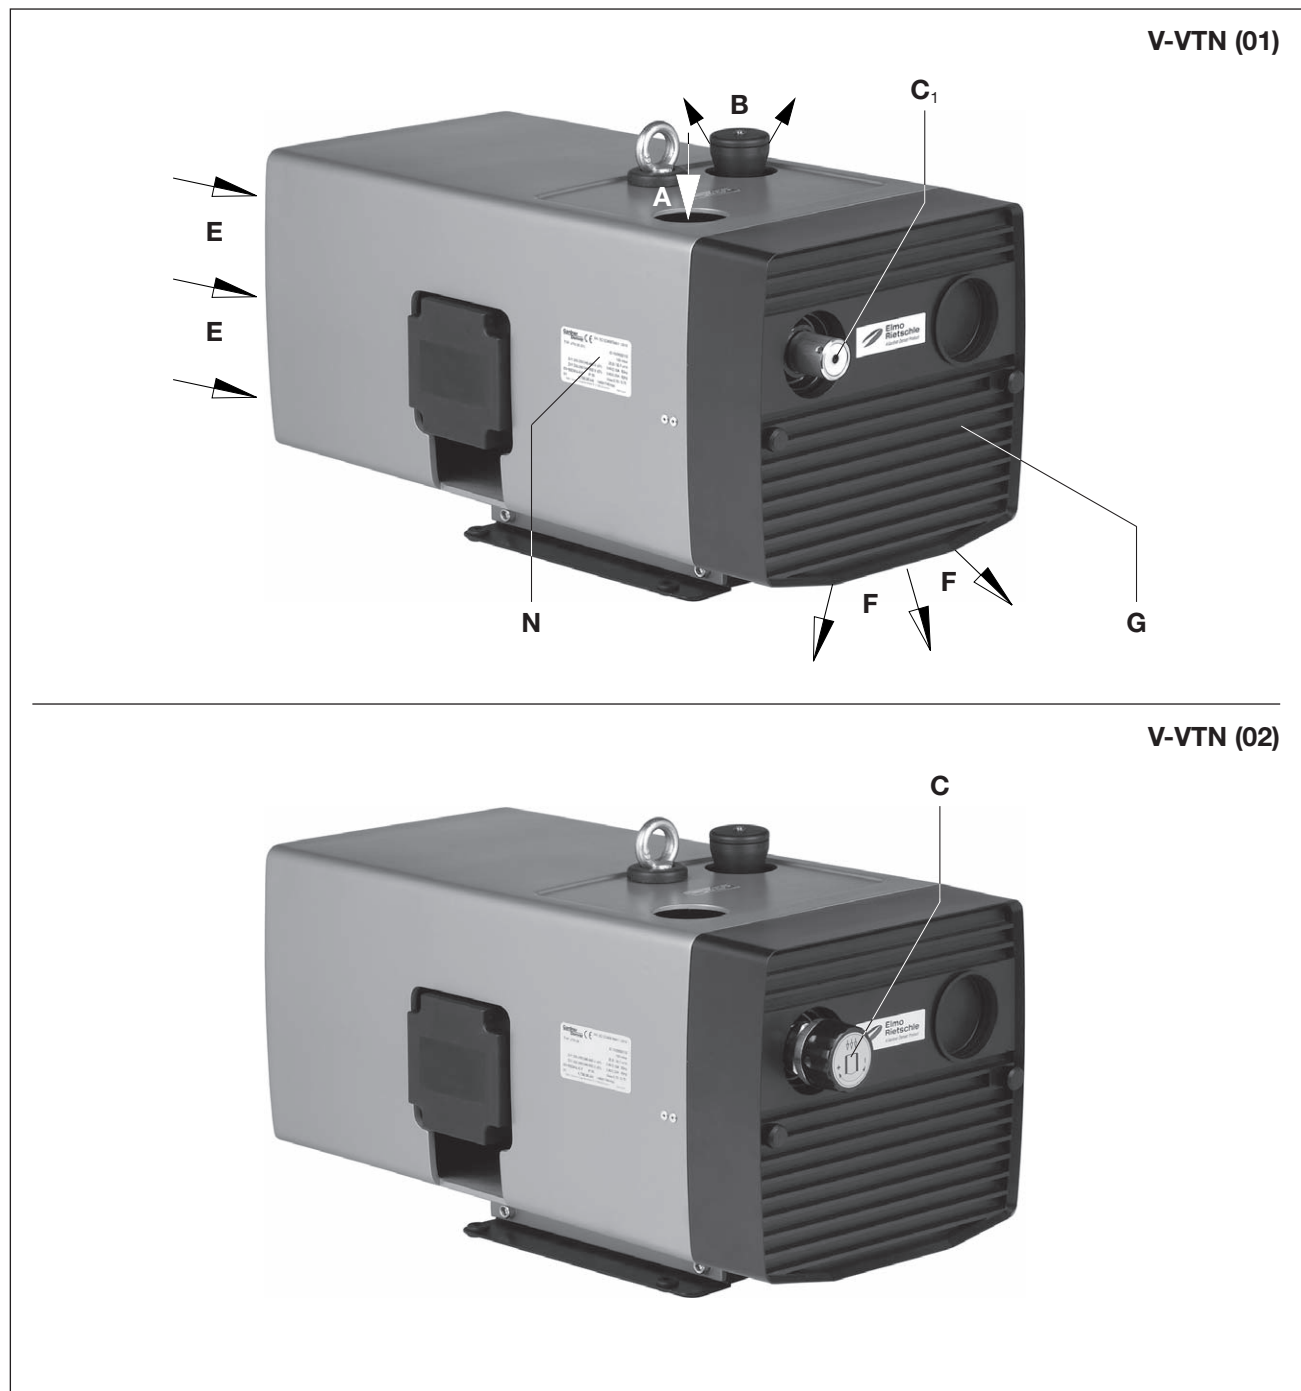
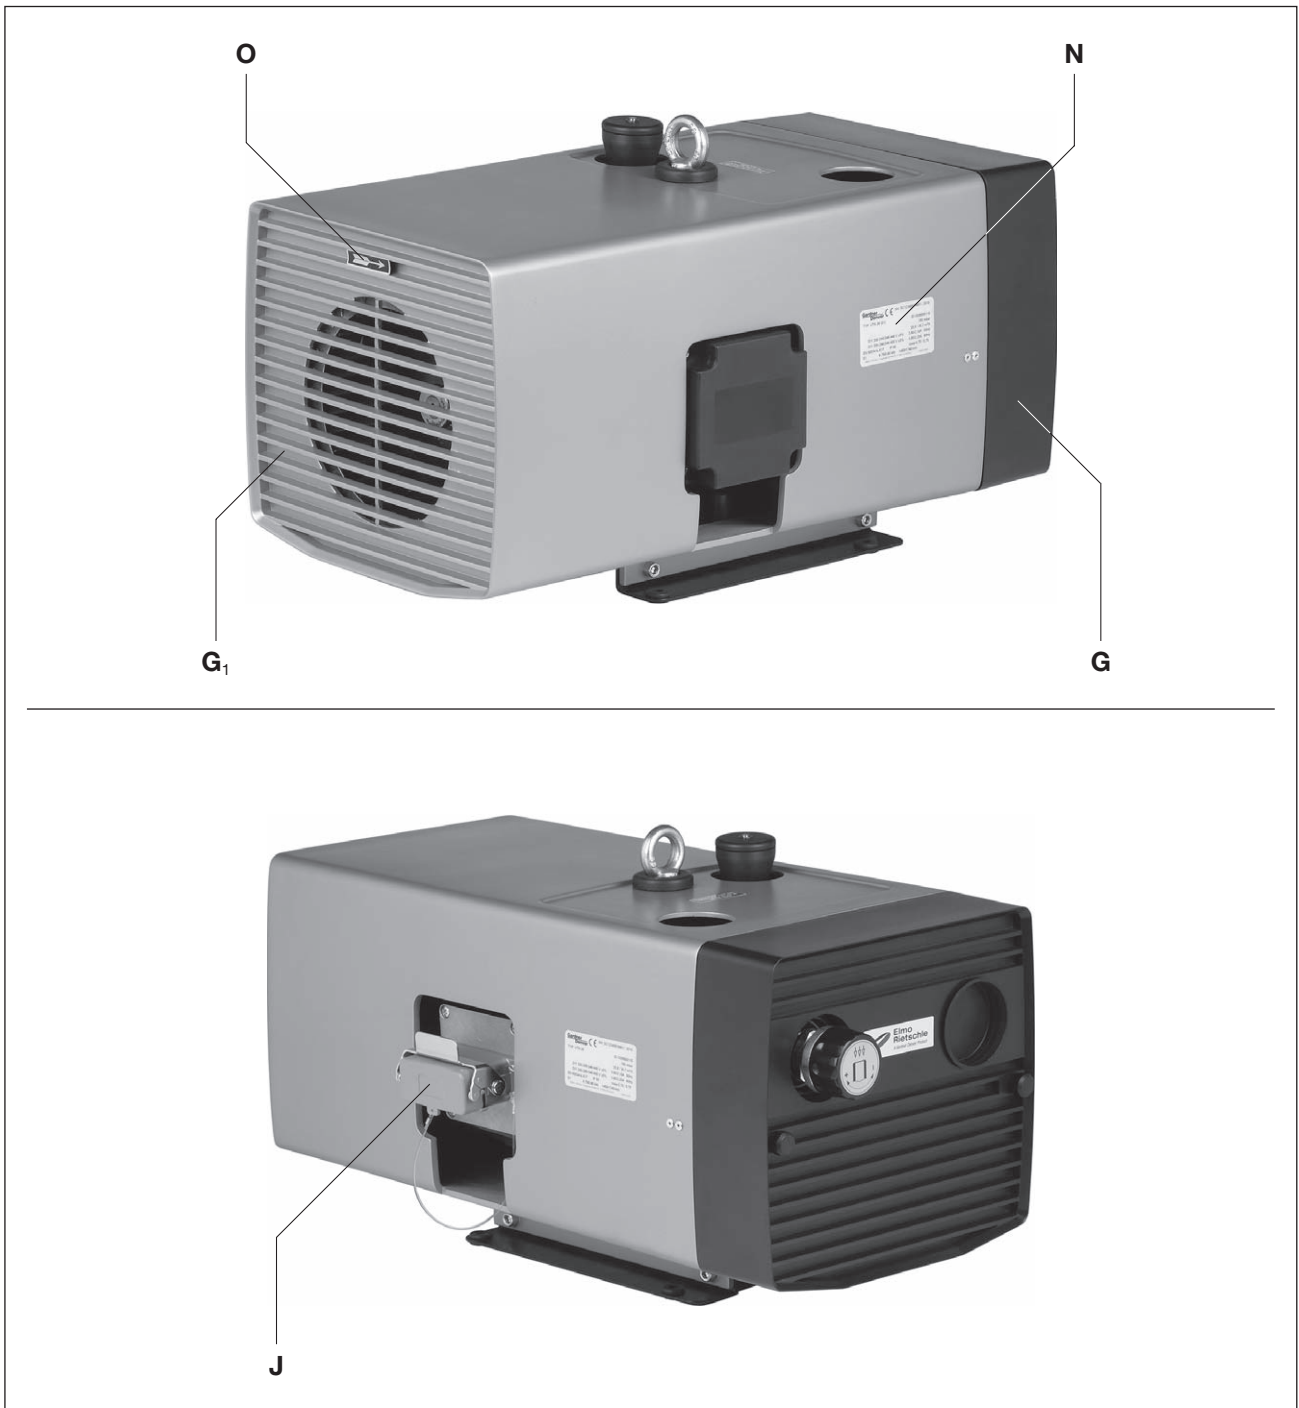

Fig. 2 Vacuum pump V-VTN (01) / V-VTN (02)
Fig. 3 Vacuum pump V-VTN
The V-VTN (02) has a vacuum regulating valve fitted as standard (Fig. 2/C) that enables the vacuum to be set to the required values which have an upper limit.
To remove the outlet grid (Fig. 3/G) and the inlet grating (Fig. 3/G₁) at least 30 cm of space must be available for maintenance work. You must also ensure that the cooling air inlets (Fig. 2/E) and cooling air outlets (Fig. 2/F) must be at least 10 cm away from the nearest wall (outgoing cooling air must not be sucked in again).
- a) Vacuum connection at (Fig. 2/A).
The vacuum can be set by turning the control knob (Fig. 2/C) as shown on the symbol fitted to the button.
- a) The electrical motor data can be found on the data plate (Fig. 2/N) or the motor data plate. The motors comply with DIN EN 60034 and are in protection class IP 55 and insulation class F. The appropriate connection diagram is located in the motor's terminal box (not for the plug connection version). The motor data must be compared with the data of the existing mains network (current type, voltage, network frequency, permitted current value).
- b) Connect the motor via the plug connection (Fig. 3/J) or a motor protection switch (for safety reasons a motor protection switch is required and cable fitting must be provided to provide strain relief for the connection cable). We recommend using motor protection switches with delayed switch off, depending on possible excess current. Temporary excess current may occur when the machine is started cold.
- ▷ The drive shaft direction of rotation is shown by the rotation direction arrow (Fig. 2/O).